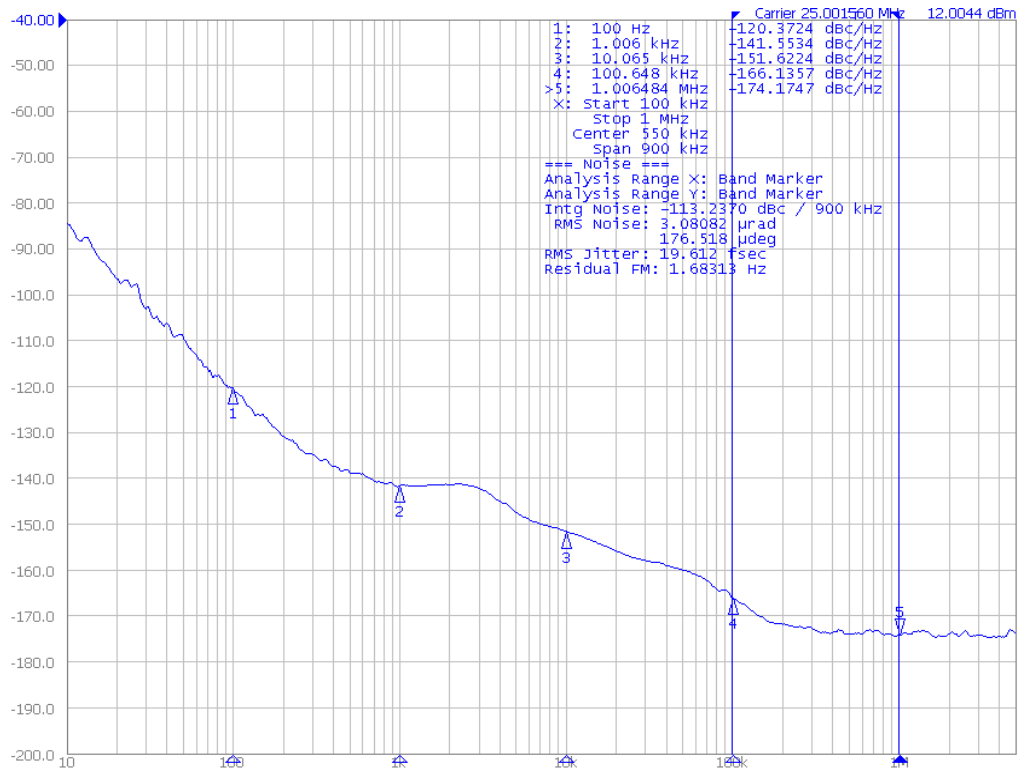

Figure 5. Typical Phase Noise Plot of the NB3H83905C Operating at 25 MHz $V_{DD} = V_{DDO} = 3.3 V$
4. Parallel terminated 50 Ω to V_{DDO}/2 (see Figure 5).